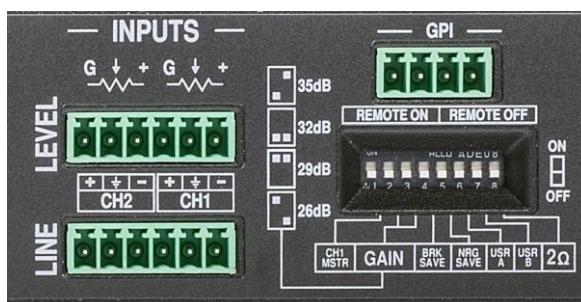

Figure 2 – Close up of GPI Section on Duecanali.
The following zoomed in photo is of a Duecanali which has the same section available for its (2) channels (Figure 2).